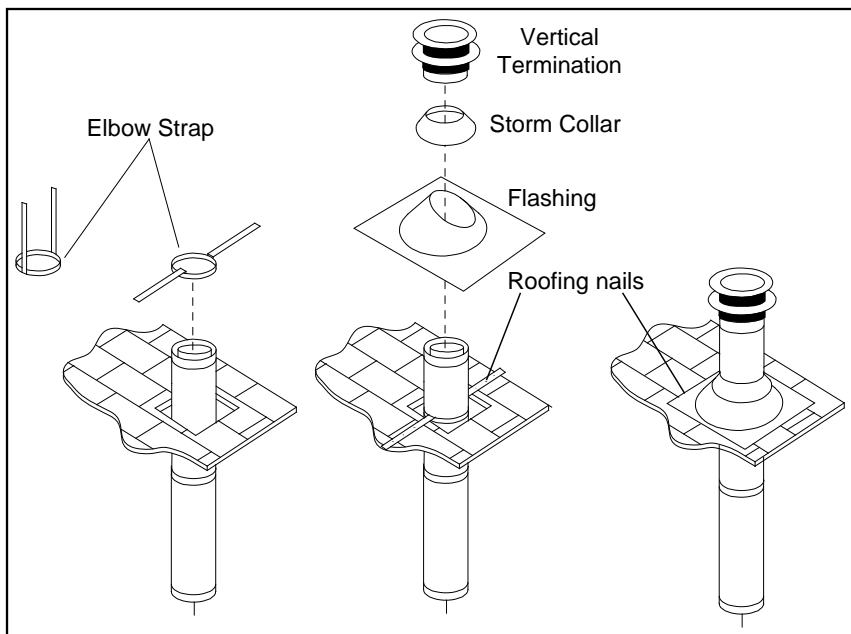

Figure 63: Vertical Vent Termination
- Step 6.** Once the pipe sections have been joined, and run up through the hole in the roof, slip an elbow strap over the exposed sections, bend the support straps outwards, and push the elbow strap down to the roof level, as shown in Figure 63. Tighten the clamp around the pipe section. Use a level to make sure the pipe is truly vertical. With roofing nails, secure the support straps to the roof. Seal the nails holes heads with non-hardening mastic. Trim the excess length of the support straps that extend out beyond the edge of the flashing.